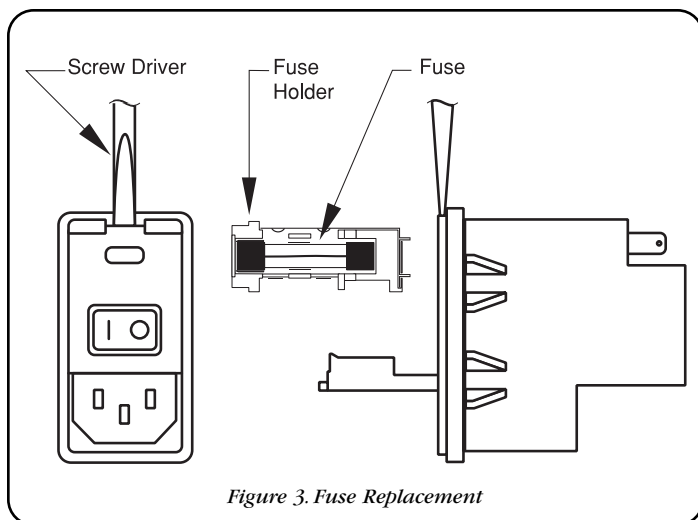

Figure 3. Fuse Replacement
6. Fuse Replacement. Turn off power, remove power cord from power module. Use straight blade screw driver, pry open access door. Remove fuse holder, remove fuse(s) from holder. Replace fuse(s) and fuse holder. For continued fire protection, replace fuse only with 250 V fuse of the specified type and rating. (3AG 0.75 AMP SLO-BLO) (See Figure 3.)